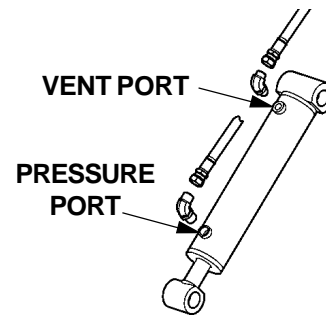

FIG. 46-1
5. Check the Hydraulic Cylinder. With the Platform on the ground, remove the Breather Plug or Vent Line from the Vent Port of the Cylinder (**FIG. 46-1**). Raise the Platform even with the bed. Allow pump motor to run two seconds more while you watch for hydraulic fluid at the Vent Port. A few drops of hydraulic fluid escaping the Vent Port is normal; however, if it streams from the Vent Port, Piston Seals are worn. Replace Seals.